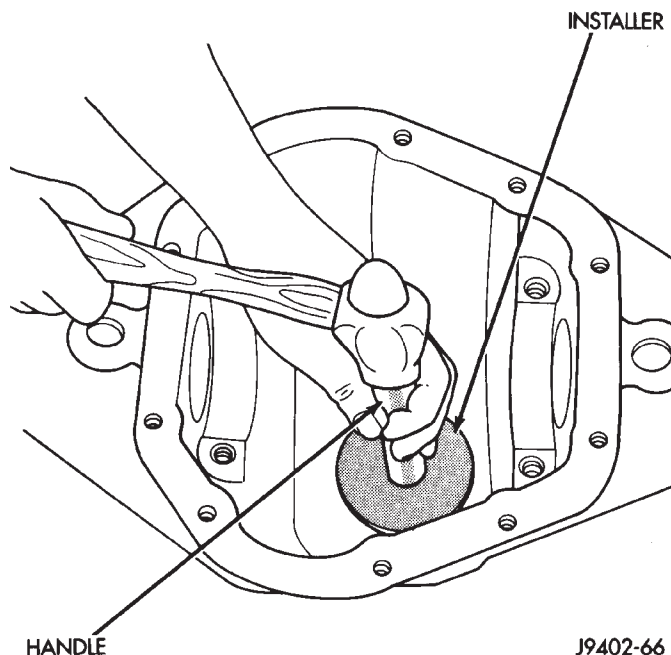

Fig. 30 Pinion Rear Bearing Cup Installation
(1) Apply Mopar® Door Ease, or equivalent, stick lubricant to outside surface of bearing cup.
(2) Install the pinion rear bearing cup (Fig. 30) with Installer C-4308 and Driver Handle C-4171.
(3) Ensure cup is correctly seated.